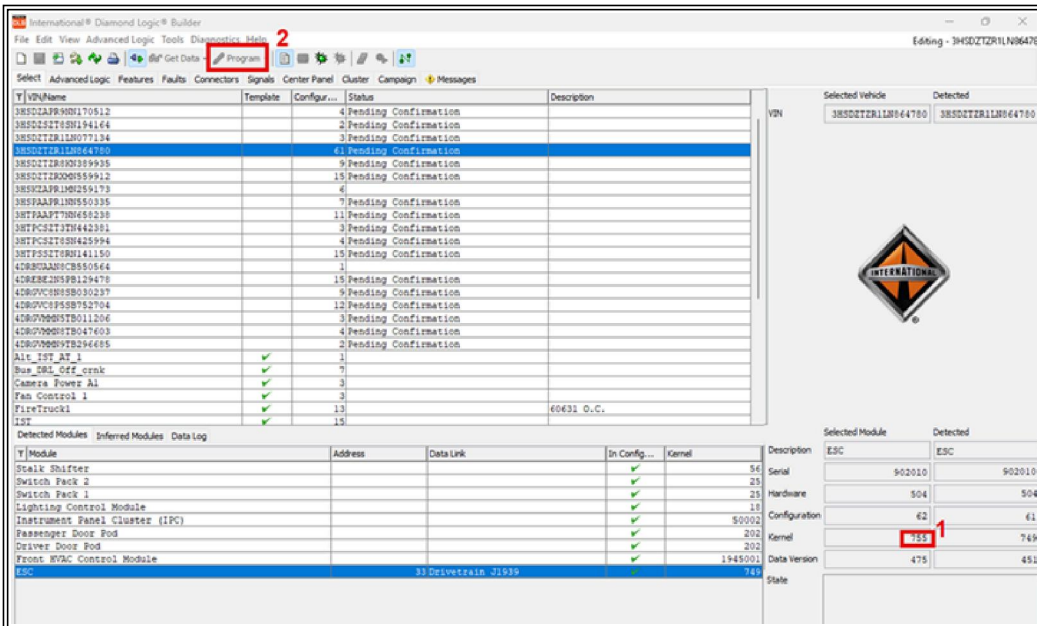

Figure 2: Preparing for Programming
3. Verify the selected kernel shows as 755 or later (Figure 2, Item 1), then hit the program button (Figure 2, Item 2).